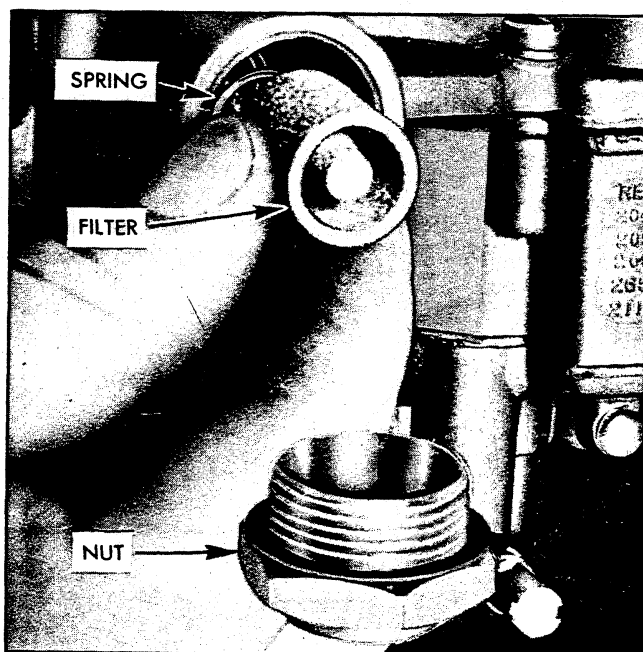

Fig. 4C—Fuel Filter
3. Remove filter element and spring (fig. 4c).